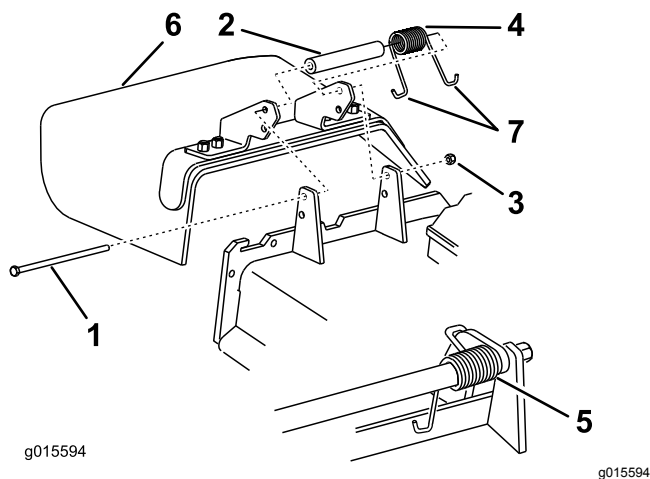

Figure 111
1. Remove the locknut, bolt, spring, and spacer holding the deflector to the pivot brackets (Figure 111).
2. Remove the damaged or worn grass deflector (Figure 111).
Note: Make sure that 1 J-hook end of the spring is installed behind the deck edge before installing the bolt as shown in Figure 111.
- Place 1 J-hook end of the spring around the grass deflector (Figure 111).